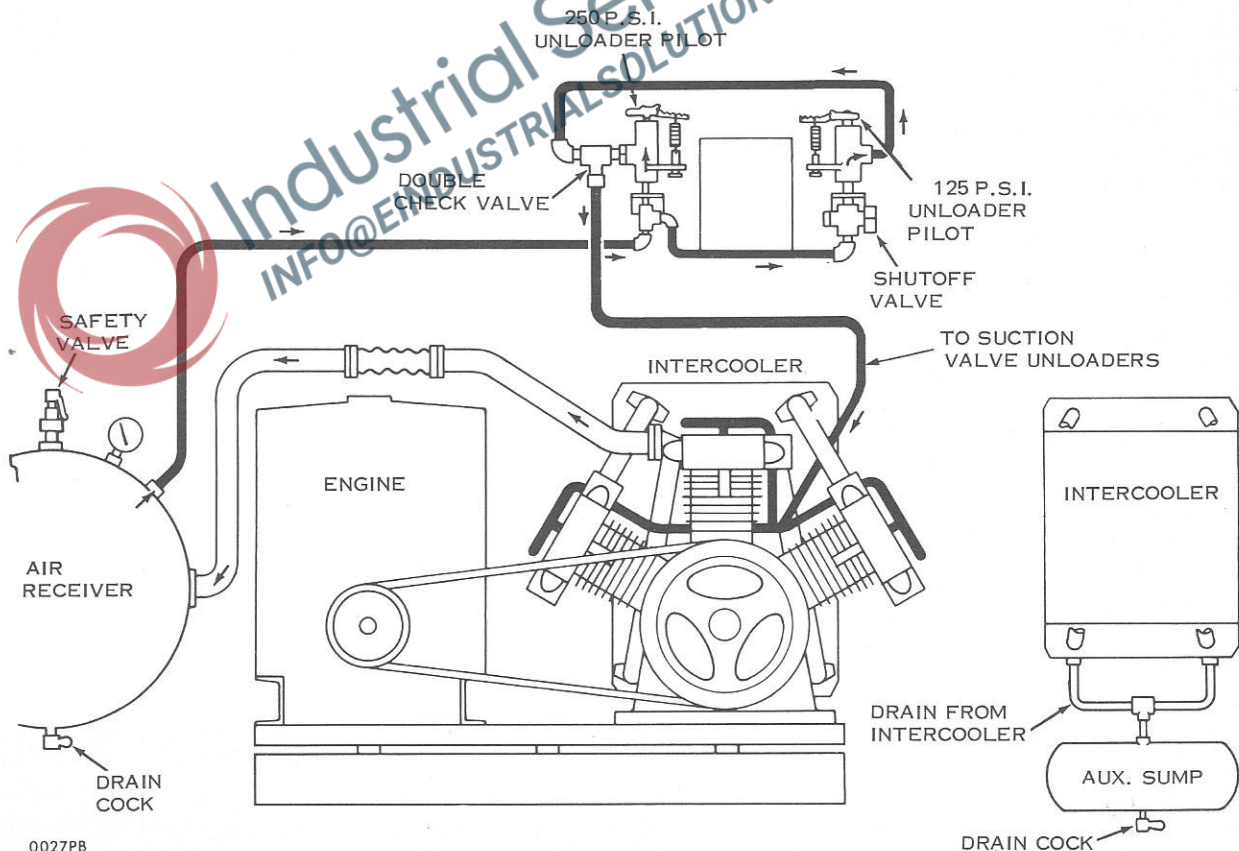

Figure 4 — Typical Piping Diagram (Engine Driven) Rig Application
in the line and attempt to run discharge line down hill from compressor to receiver in order to drain any condensate that may occur in this line. Some bends and expansion joints are desirable in the discharge line to relieve stresses of expansion and contraction inherent in metal that is subject to temperature variations. For a typical rig installation see figure 4. As will be noted in figure 4, an auxiliary sump is often added to the intercooler on rig applications of SDS compressors. Due to moisture build-up in the bottom of the air receiver, the compressor piping should be connected to the upper end of the air receiver to prevent moisture feed back to the compressor.
- Drain condensate from air receiver and inter-cooler by opening drain cocks to each. (See Figure 4).